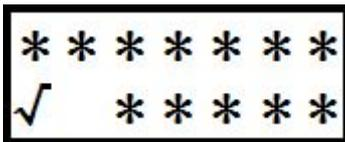
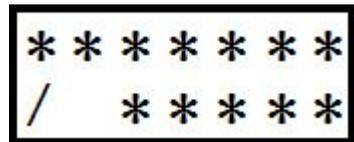

Figure40
Figure41
12.6 After exiting the menu, the current characteristic function has been set to square roots, the screen displays as shown in Figure 40: If characteristic function is set to linear, the screen displays as shown in Figure 41.